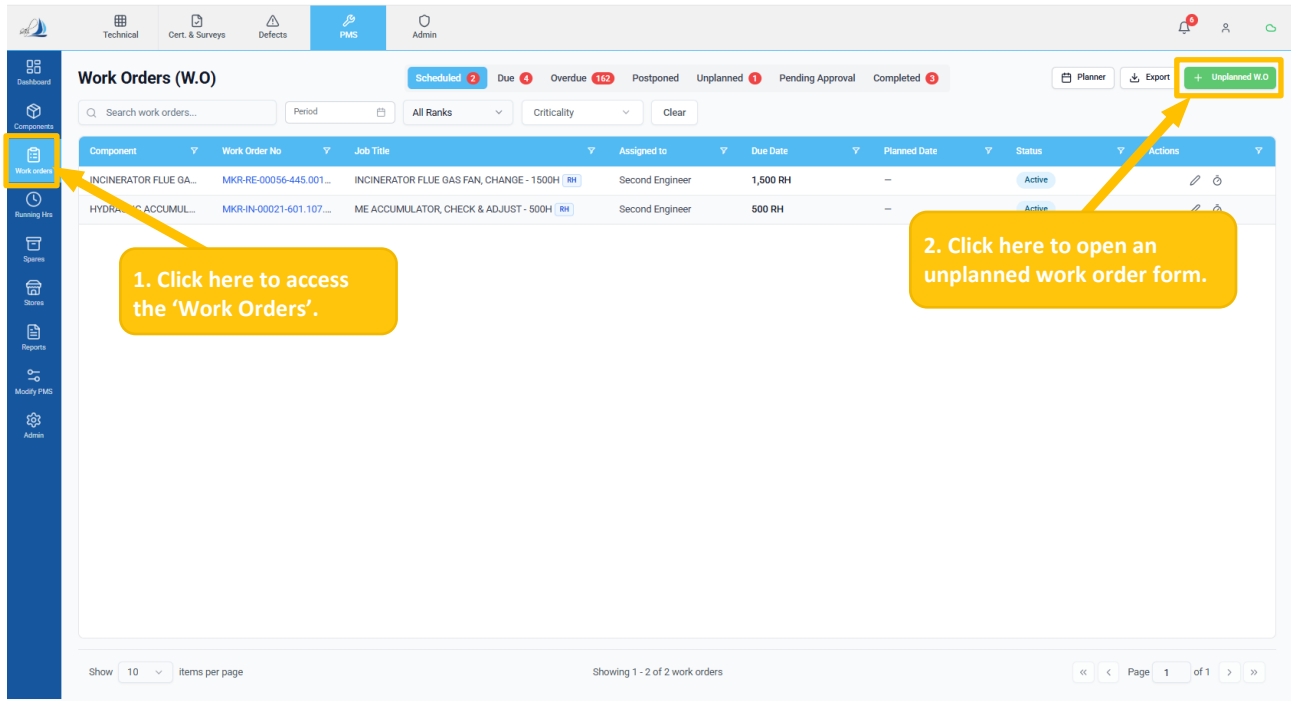

Figure 31
- Go to the 'Work Orders' sub-sub module. (Ref Figure 31)
- Click on the '+ Unplanned W.O' button to create an unplanned work order. (Ref Figure 31)